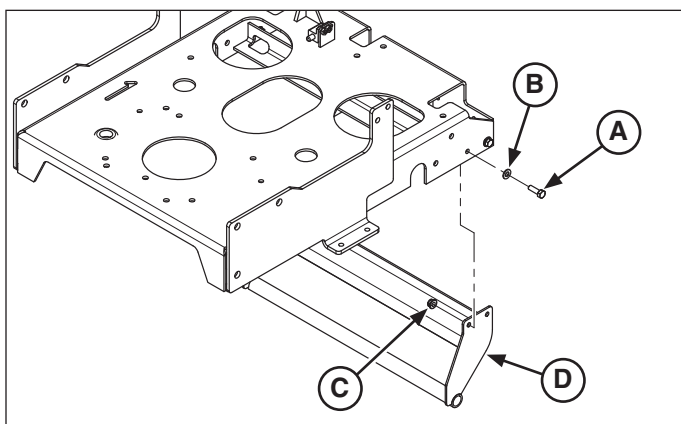

Figure 1. Removing the Bumper
2. Remove the four (4) 5/16-18 X 1" bolts (A, Figure 1), 5/16 washers (B) and 5/16 nylock flange nuts (C) that secure the bumper (D) to the frame of the unit.